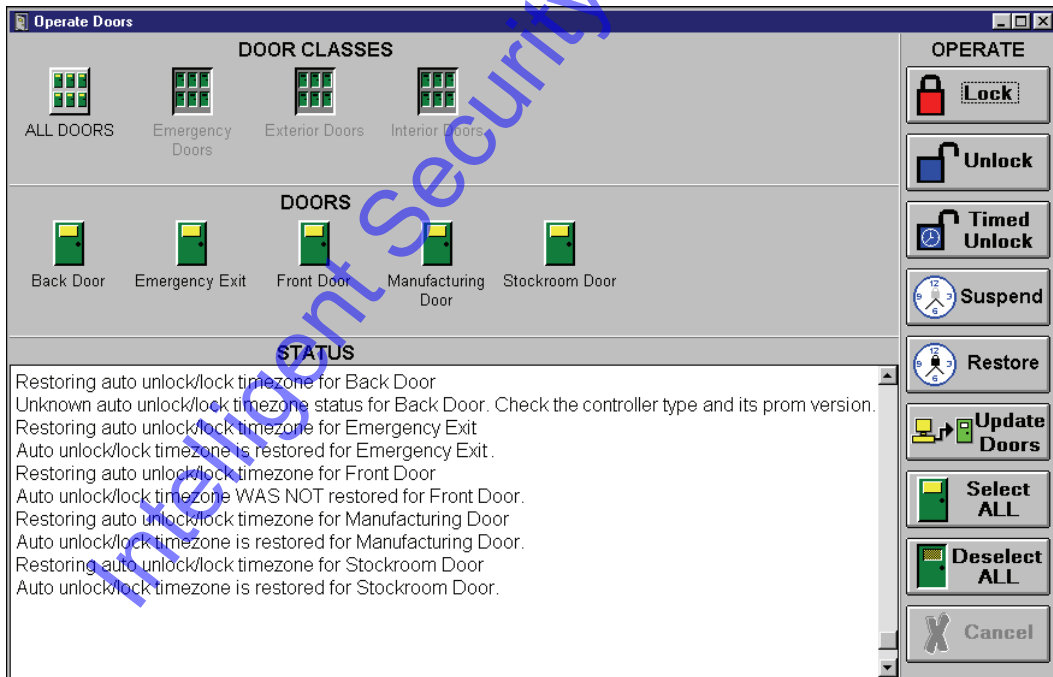

Figure 6-18: Restore Auto Unlock/Lock on All Doors
4. To proceed with the Restore, click on the  button. The resulting window should look similar to Figure 6-18.